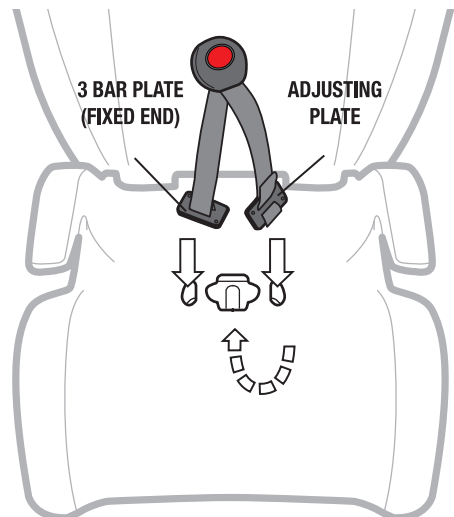

Figure 7
Step 9: If in working order refit the Buckle to the restraint with the red button facing out and feeding each 3-bar plate through appropriate slot (refer Figure 7).
Step 10: Turn the Buckle adjusting plate and push through the right hand slot (refer Figure 7 & 8).
Step 11: Turn the Buckle 3 bar plate and push through the left hand slot (refer Figure 7 & 9).